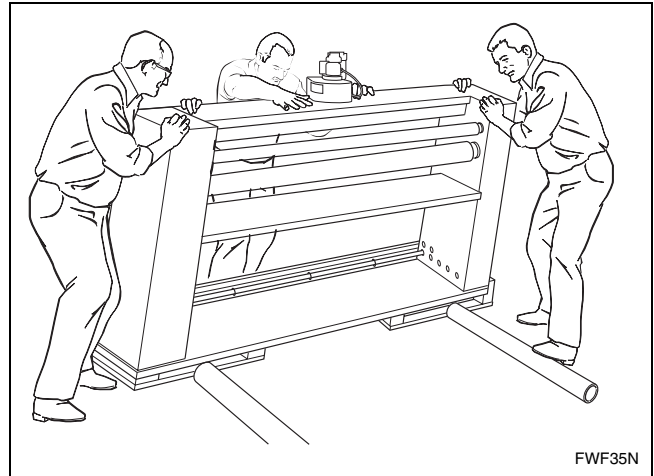

Figure 5
4. Place two rollers on the ground next to the finisher. Refer to *Figure 5*.
6. Slowly lower the finisher off the skid and onto the first two rollers. Keep the unit level. Refer to *Figure 5*.